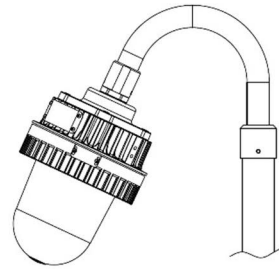

Figure 5
- ☞ Tighten tube locking set screw to conduit, 1.0 N-m. (Figures 5 and 6)